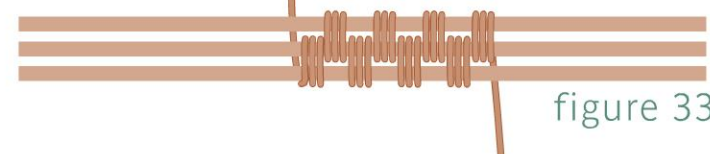

figure 33
- 7 Continue weaving, repeating Steps 5 and 6 (Figure 33). As you near the end of the frame wire, push the weave to the left to continue weaving.